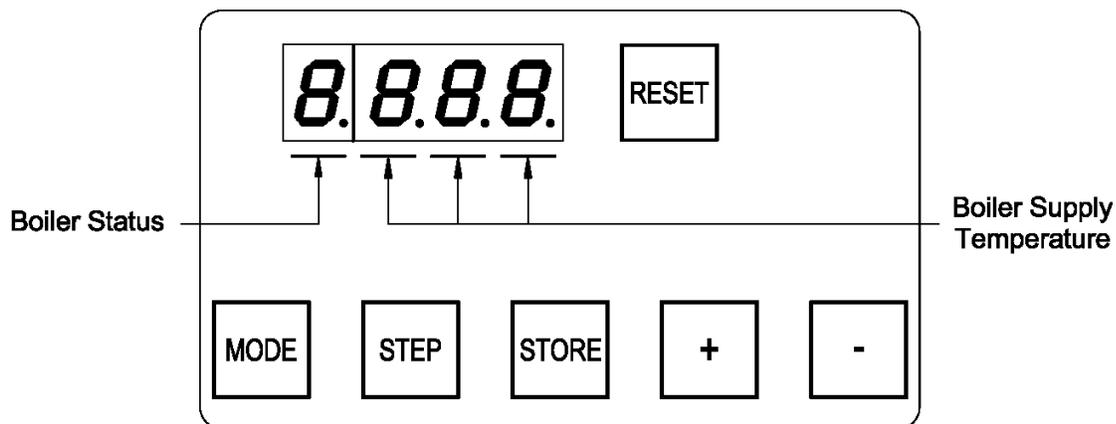

Figure 11.1: Normal Display In Standby Mode
Under normal conditions, the boiler is in standby mode and the display looks like that shown in Figure 11.1. The three digits to the right of the decimal point are the boiler’s supply temperature. The digit to the left of the decimal point is the boiler’s status code. A list of status codes, and their meanings, is shown in Table 11.3. Figure 11.2 is a map of the menu structure for the control panel. Push the mode key to move from one mode to the next. As you change modes, the mode you are entering is shown on the display:
- c) “*Stby*” for Standby Mode. Upon entering standby mode, “*Stby*” will briefly appear on the display and then the display will show the boiler’s status along with the supply temperature (Figure 11.1).